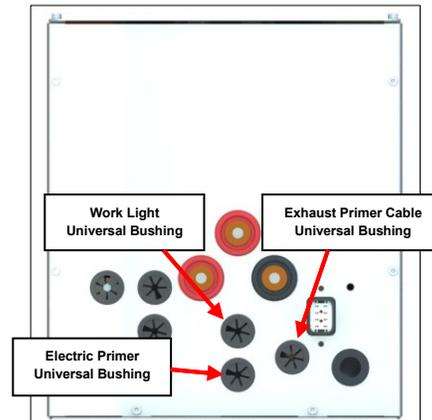

Figure 8
8. Pass the Electric Primer wires through the universal plastic bushing in the back panel. (**Fig.8**)
5. Pass the Work Light wires through the universal plastic bushing in the back panel. (Fig.8)